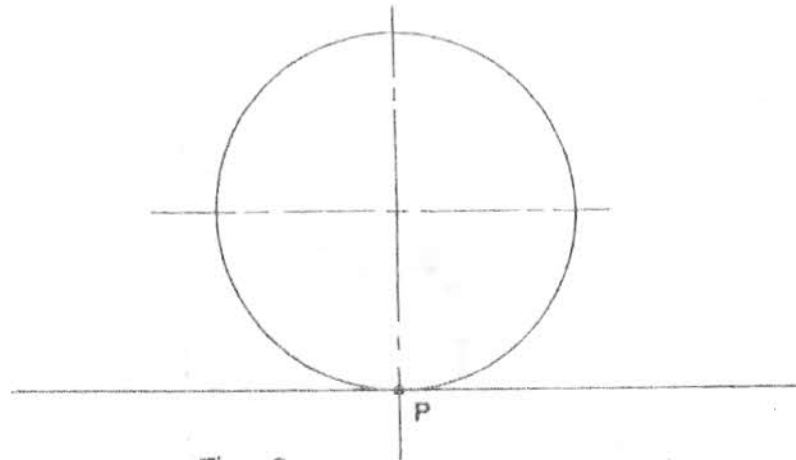

Fig. 2
5. (a) Figure 2 shows a circular wheel of 40 mm diameter with point P attached to its periphery. The wheel rolls without slipping along a straight line while remaining on the same plane. Plot the path of point P for a full revolution of the wheel.